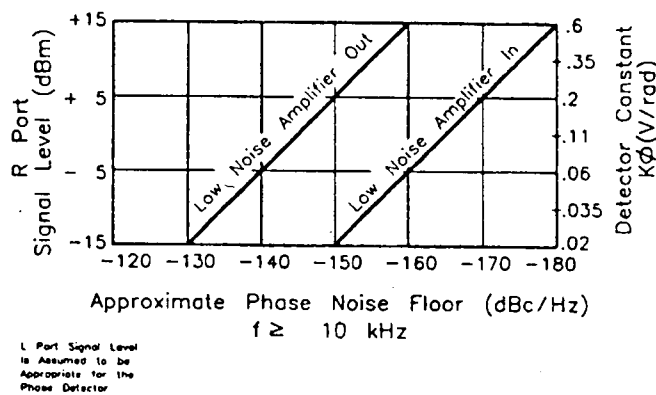

Figure 2-8. Phase Detector Sensitivity
3. Locate the power level you measured on the left side of the Phase Detector Sensitivity Graph (figure 2-8). Now move across the graph at the measured level and find the corresponding Phase Detector constant along the right edge of the graph. This is the value you will enter as the Current Detector Constant when you define your measurement. (Note that the approximate measurement noise floor provided by the R port level is shown across the bottom of the graph.)